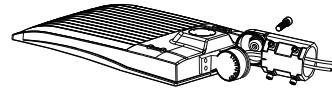

Figure 1
Step 1: Remove the mounting screws on the fixture and run the wires through the mounting. (Figure 1)